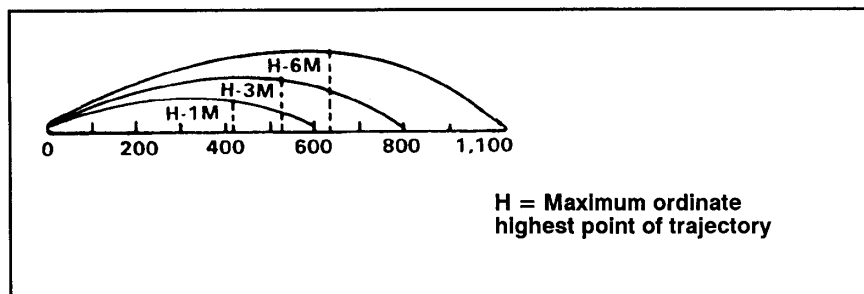

Figure 6-1. Trajectory and maximum ordinate.
a. **Trajectory.** The trajectory is the path of the bullet in flight (Figure 6-1). The automatic rifleman must know the M249 AR's trajectory to effectively fire the weapon throughout its full range. The path of the bullet is almost flat at ranges up to 300 meters; then it begins to curve, and the curve becomes greater as the range increases.
b. **Maximum Ordinate.** This is the highest point the trajectory reaches between the muzzle of the weapon and the base of the target. It always occurs about two-thirds of the distance from the weapon to the target. The maximum ordinate increases as the range increases (Figure 6-1).